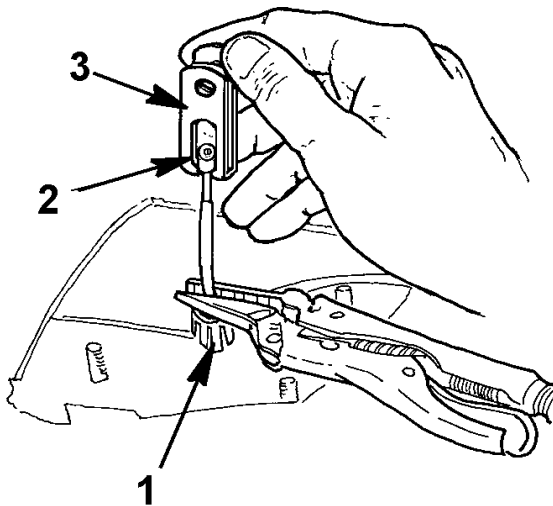

Figure 9 Disconnect Parking Brake Cable From Yoke
9. Disconnect the parking brake cable from the yoke (Figure 9).